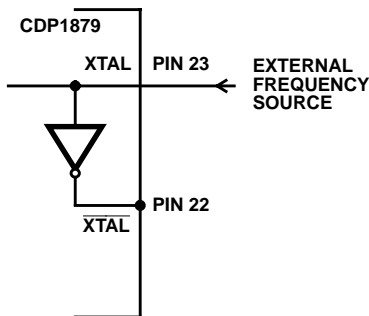

FIGURE 5. CONNECTIONS FOR AN EXTERNAL FREQUENCY SOURCE APPLIED TO REAL-TIME CLOCK
2. An external frequency input that is supplied at the XTAL input. \overline{XTAL} is left open (see Figure 5). A typical external oscillator circuit is shown in Figure 7 in section, "Standby (Timekeeping) Voltage Operation".